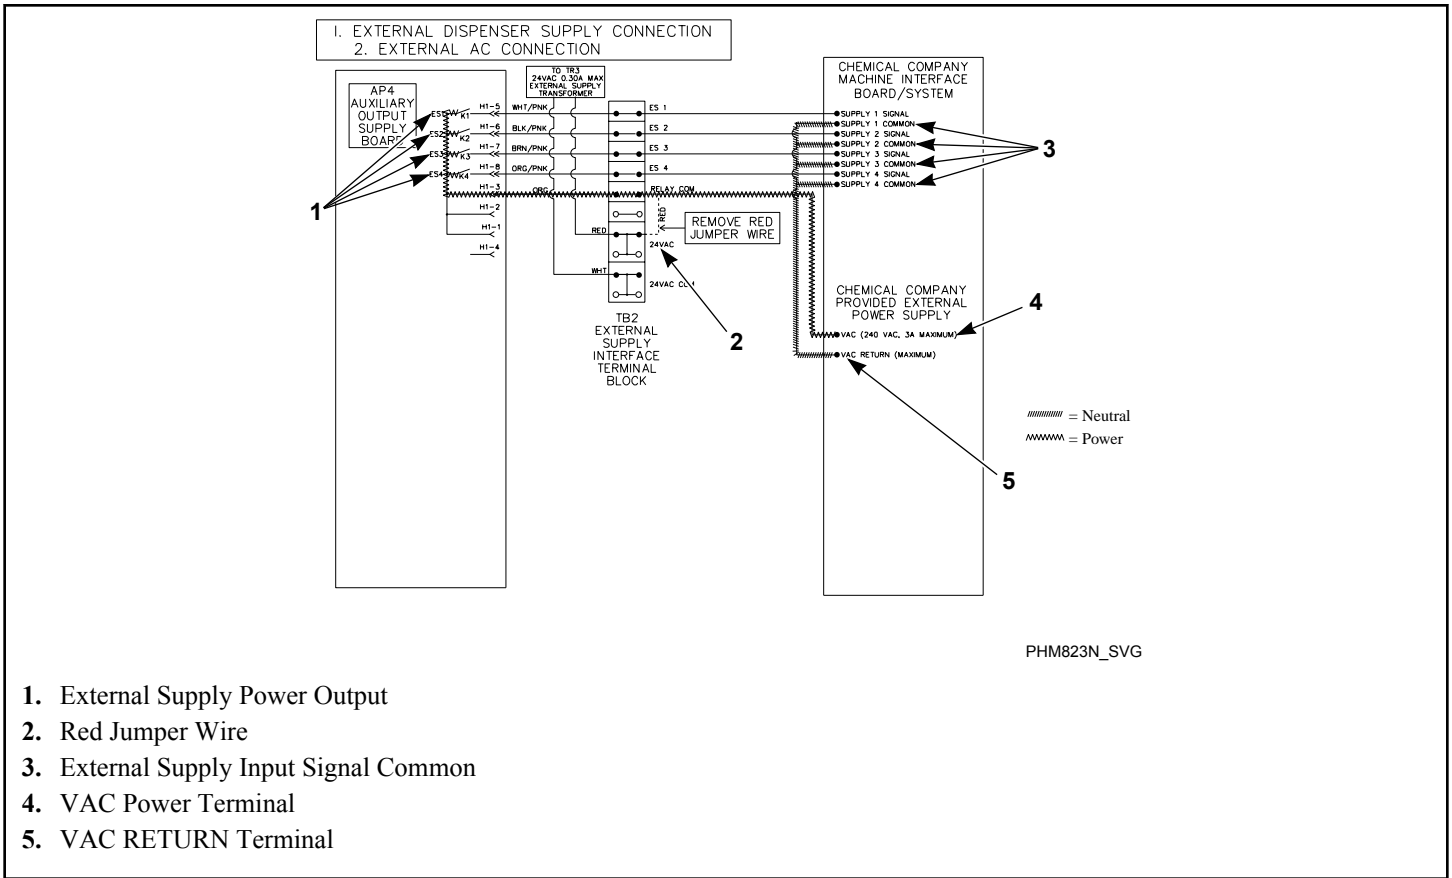

Figure 33
2. Connect one side of the external power to the “RELAY COM” and the other to the external dispenser input signals common. Refer to *Figure 33*.